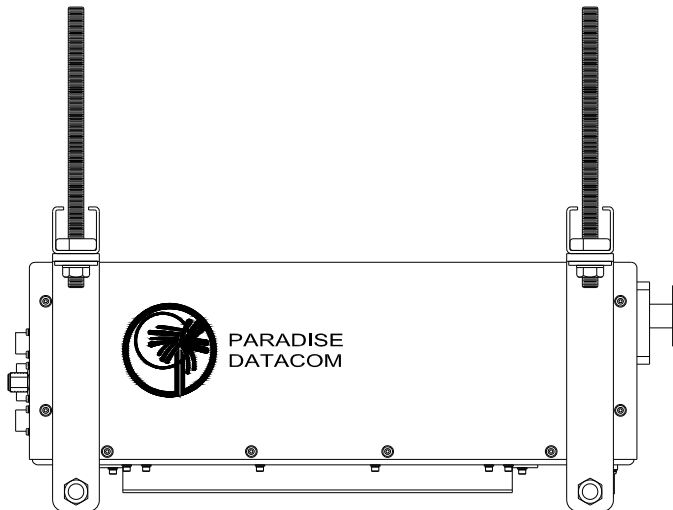

Figure 2-7: Unit Ready for Boom Installation
2. Place one piece of Uni-Strut (open channel up) at each end of the CO unit, across the flanges of the mounting brackets, lining up the holes. For each **All-Thread stud**, run on a ½” **nut** approximately 1” from the rod end. Slip on a **lock washer**, and thread the short end of the stud through the Uni-strut and mounting flange. Secure firmly in place with a **flat washer** and **nut**. The unit should now look as shown in **Figure 2-7**.